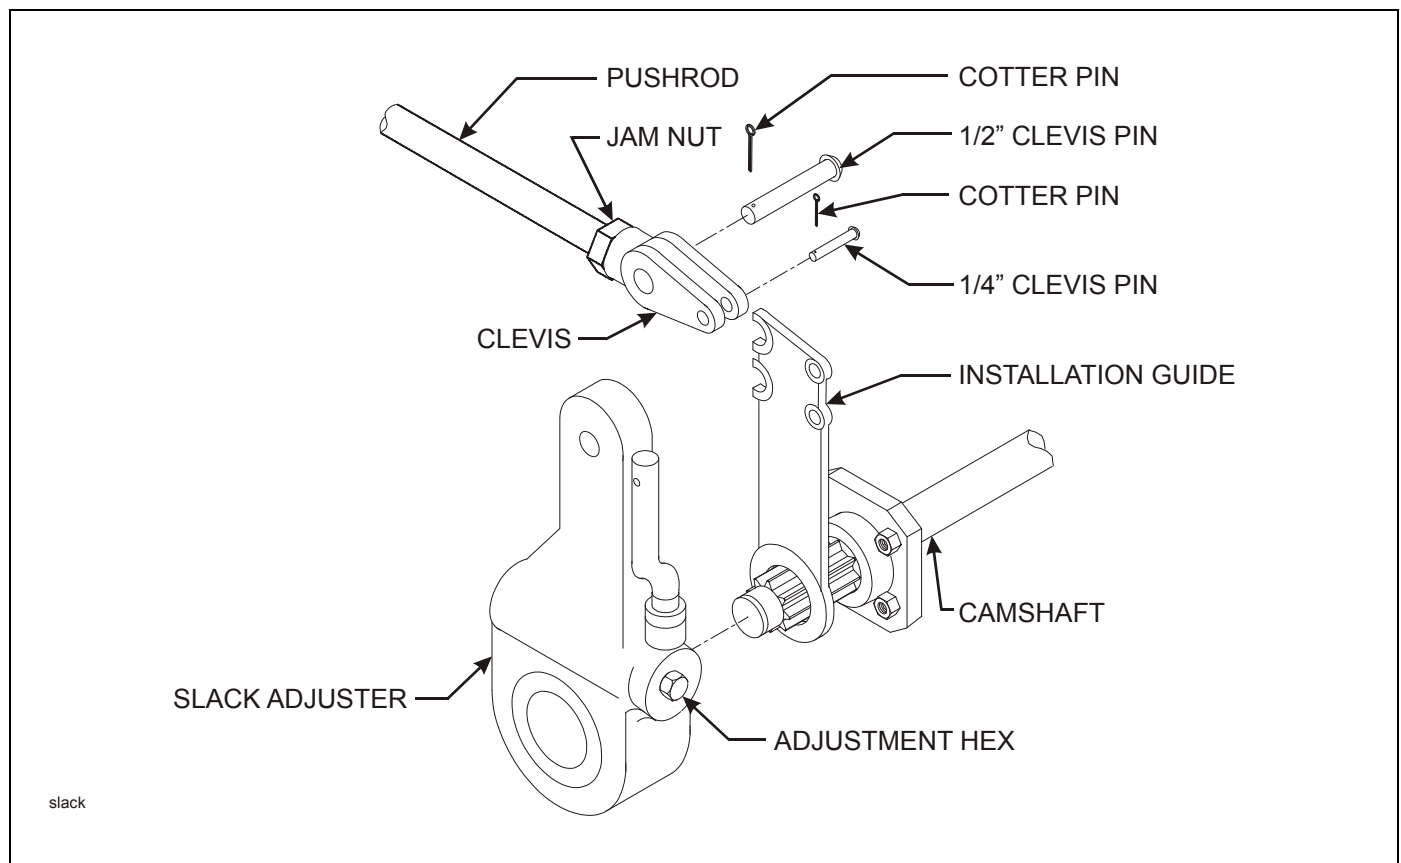

Figure 4-12: Slack Adjuster
2. Check that the push rod is fully retracted, apply air to release spring brake **(See Figure 4-12.)**
3. Remove the existing slack adjuster and clevis - **DO NOT REMOVE EXISTING JAM NUT (See Figure 4-12.)**